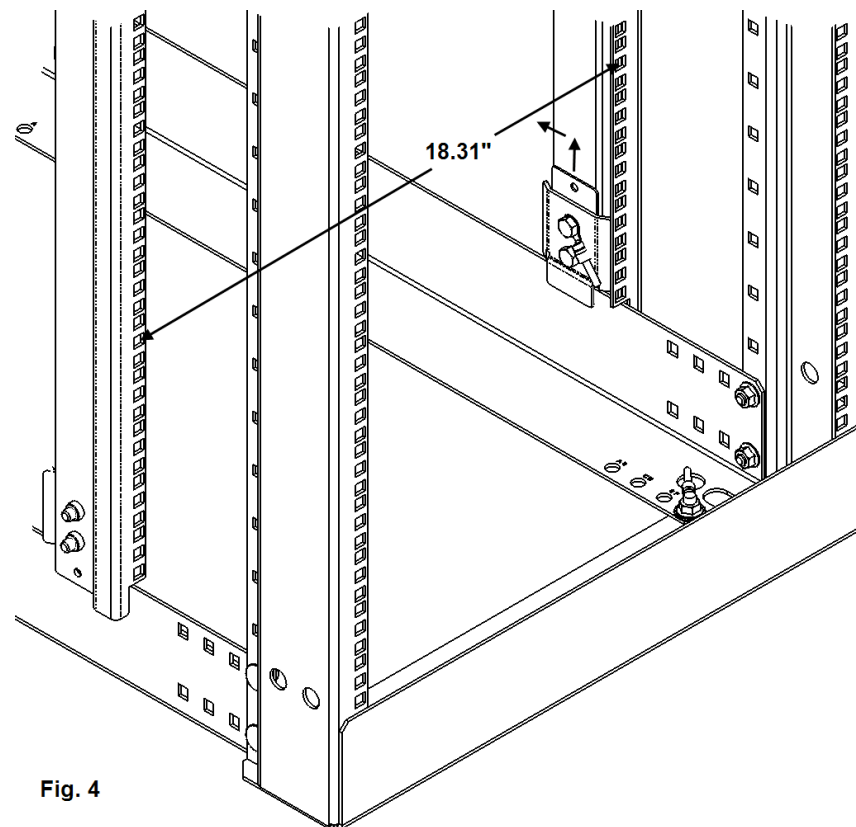

Fig. 4
6. Using a tape measure, check the distance between the equipment mounting holes, see figure 4. It should be $18.31'' \pm .06''$.